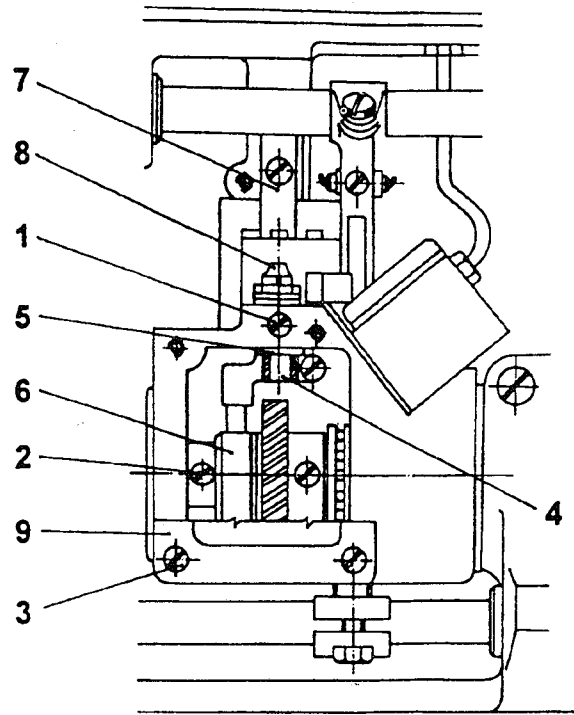

Fig. 9
**13. To adjust the hook opening (Fig. 9)**